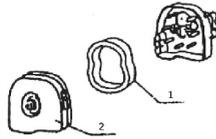

Fig. 14
- After cleaning the air filter elements with gasoline, soak them in engine oil, and manually dry them well. (Fig. 14)